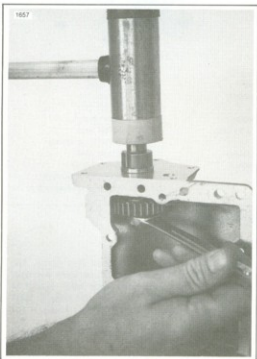

Figure 7-11. Installing Shifter Shaft and Gear
2. See Figure 7-11. Insert a 5/8 in. crescent wrench behind the gear for support and tap the shaft into the gear. Install the cotter pin into the shaft end.